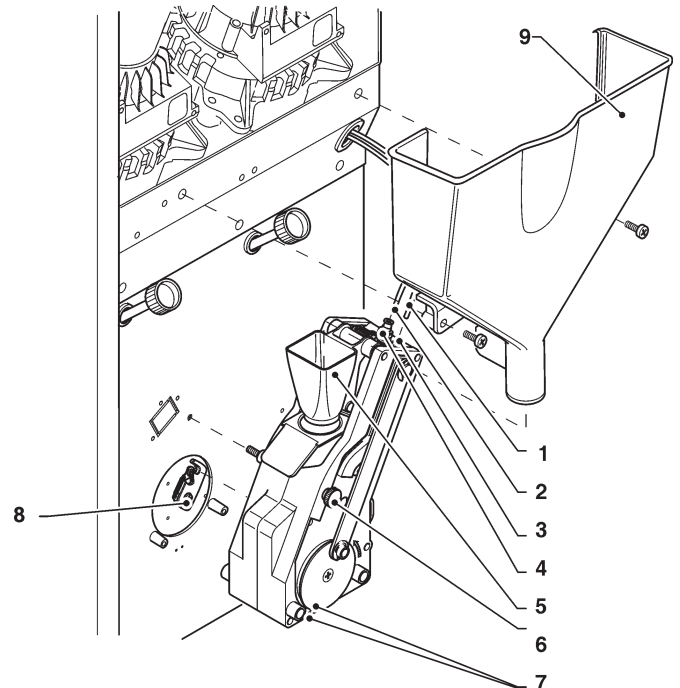

Fig. 27
- detach the teflon tube connecting the boiler from the upper piston. Pay attention to avoid losing the gasket (see fig. 27);
- disassemble the coffee funnel (see fig. 27);